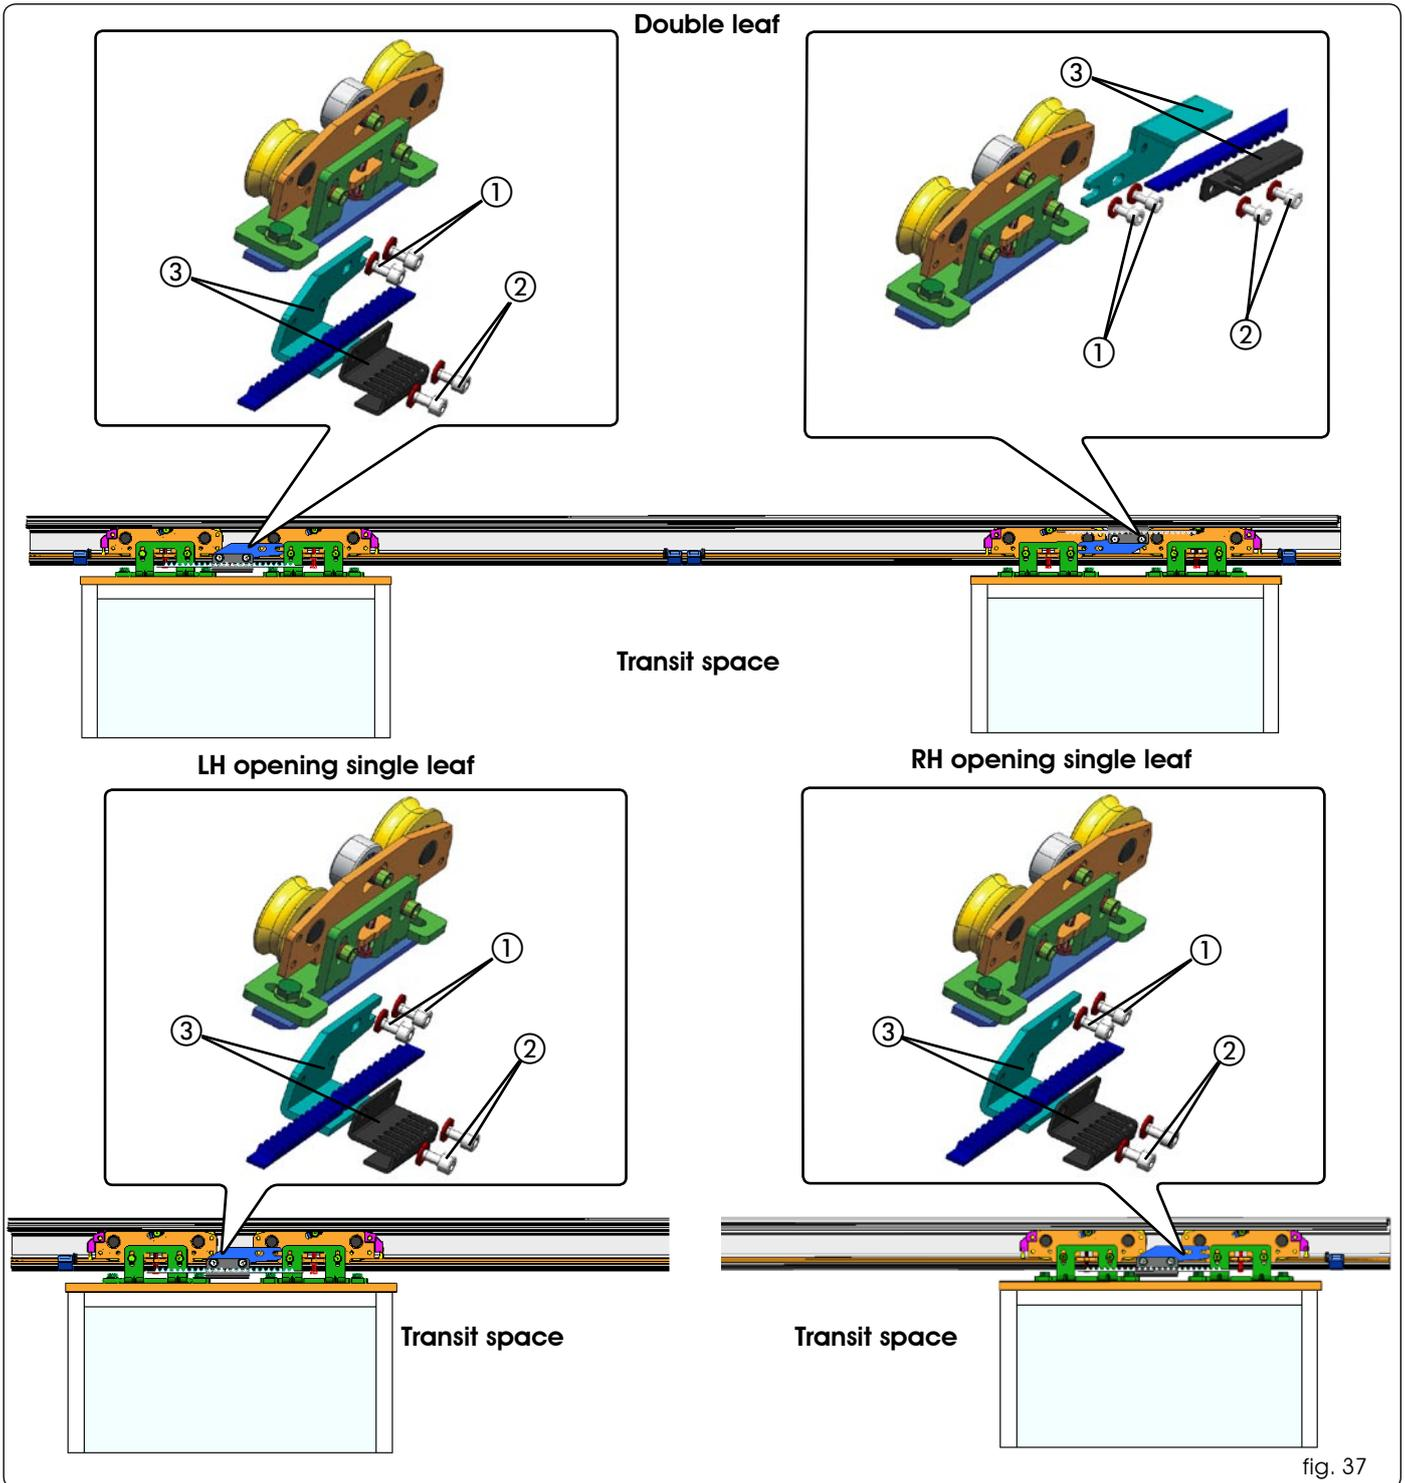

fig. 37
the belt fastened to the carriages by the fastening fittings (Fig. 37 ref. ③)
- Turn the two pairs of screws (Fig. 37 ref. ① and ②) of each carriage to obtain the required adjustment.
- Tighten the screws (Fig. 37 ref. ① and ②) .